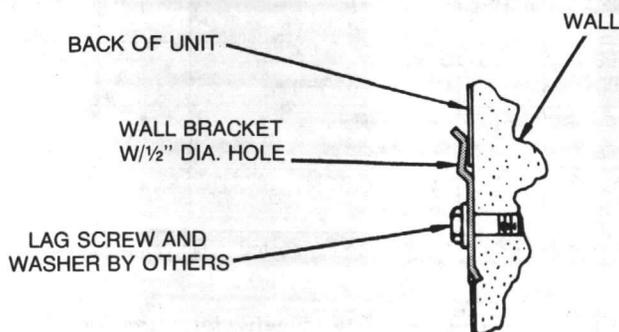

FIGURE 15 - Mounting Bracket Installation
1. For unit sizes 08 to 12, mark and prepare the mounting holes in the wall. For unit sizes 02 to 06, install the mounting bracket that is supplied with the unit, as shown in Figure 15.